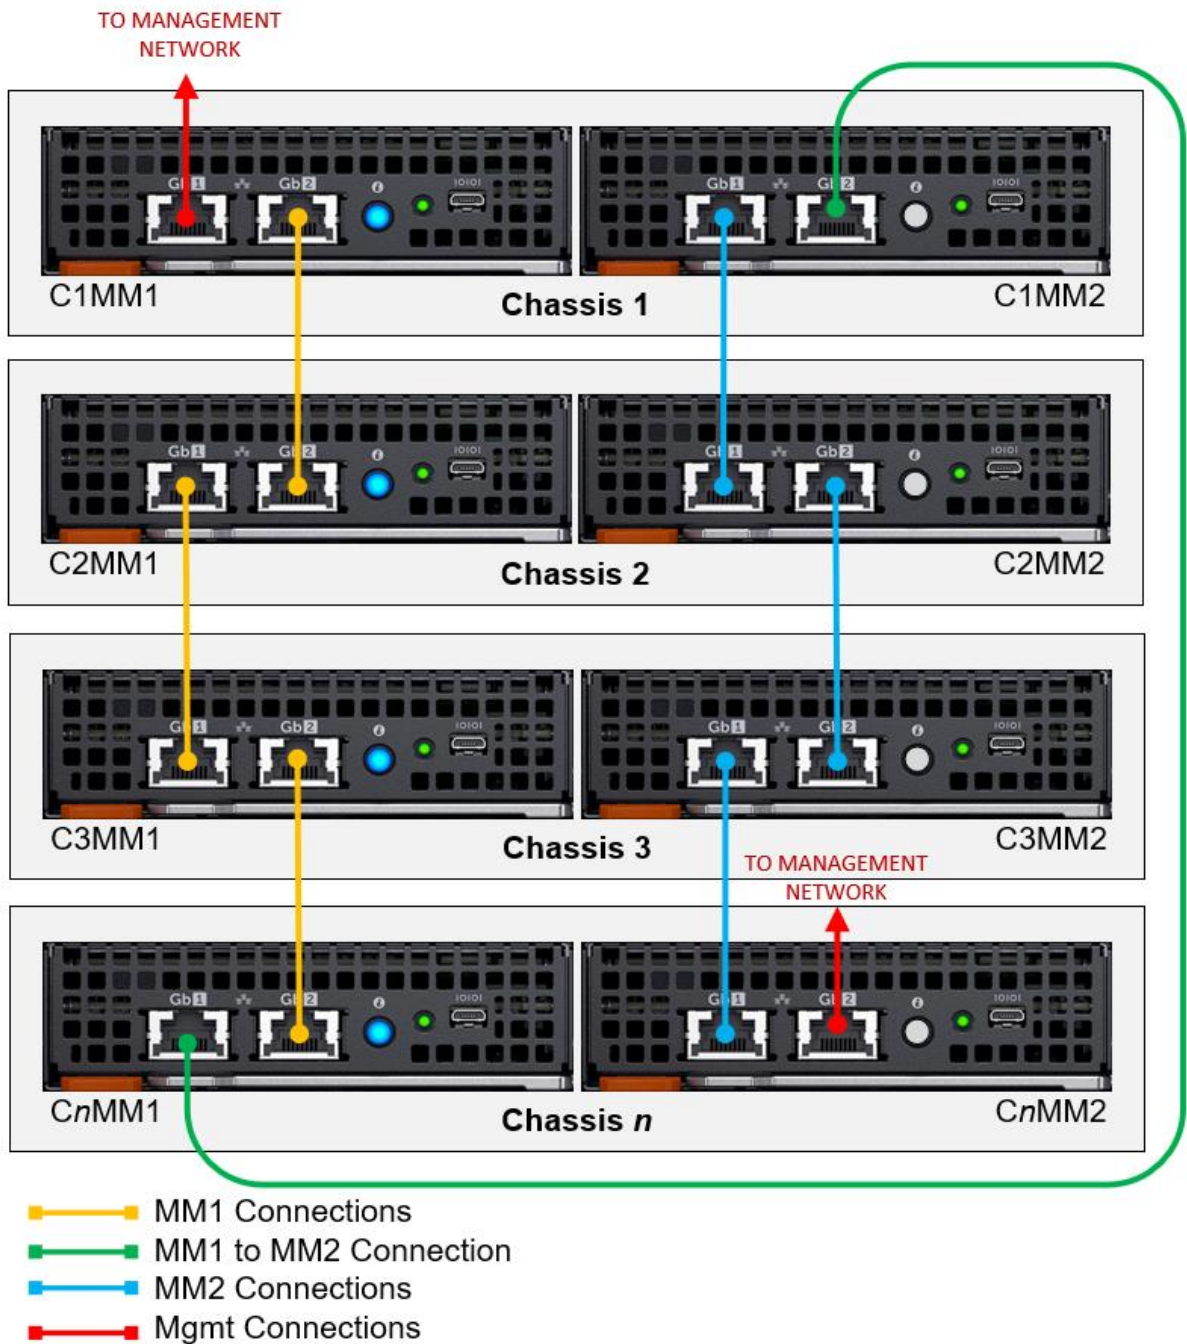

Figure 43 Dell EMC PowerEdge MX9002m module daisy chain cabling
- Each chassis must be physically connected as part of the Multi-Chassis Management (MCM) daisy-chain as shown in Figure 43. A password is not needed as the machine to machine authentication trust is used.